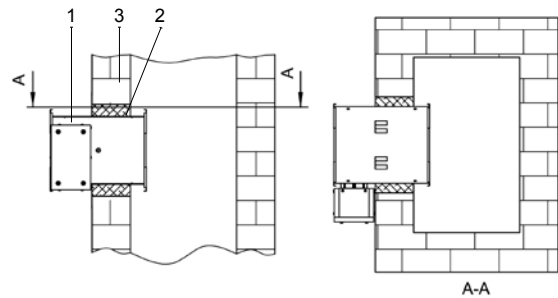

Fig. 4
- in a wall vertically, when the wall has a built-in smoke shaft (Fig. 4);